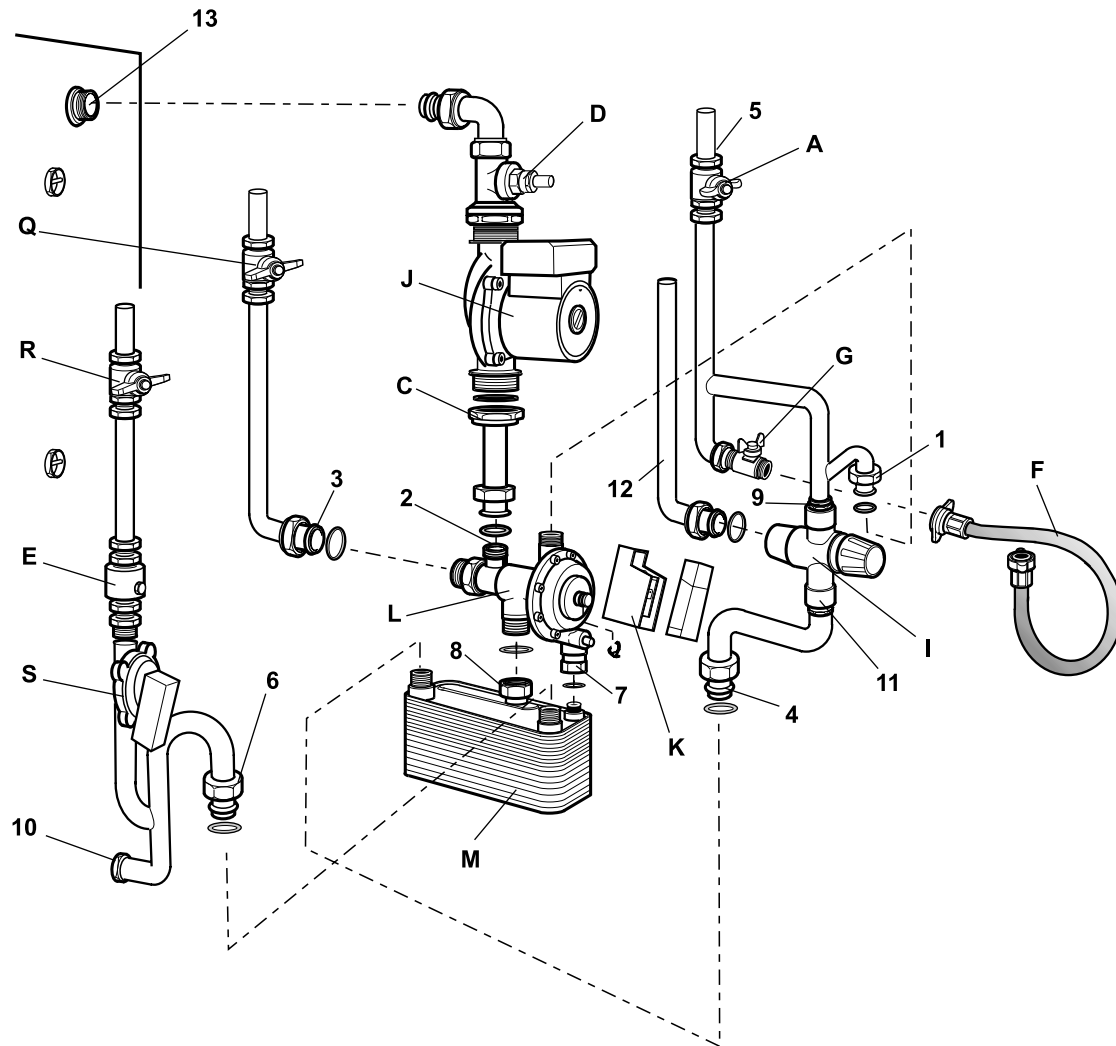

Fig. 23 - Components/connections
- 2 Close the return isolating valve, the heating flow valve and the pump isolating valve. Refer to Fig. 23.
- 3 Close the cold water inlet isolating valve. Refer to Fig. 23.
- 5 Close the return isolating valve, the heating flow valve and the pump isolating valve. Refer to Fig. 23.
- 7 Unscrew and disconnect pipe unions. See Fig. 23. Unscrew the union and remove the plate heat exchanger.
- 2 Unscrew and disconnect pipe unions. See Fig. 23. Remove the vertical 15 mm pipe from the boiler.
- 2 Close the cold water inlet isolating valve. Refer to Fig. 23.
- 3 Unscrew and disconnect pipe unions. See Fig. 23. Remove the vertical 15 mm pipe from the boiler.